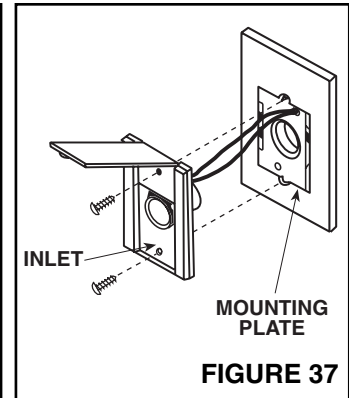

FIGURE 37
6. Refer to Figure 37. Align inlet mounting holes with mounting plate holes, place inlet into mounting plate, and secure with provided screws. NOTE: If 382-S shorter radius elbow is used, it may be necessary to use the short mounting screw to avoid interference with elbow.